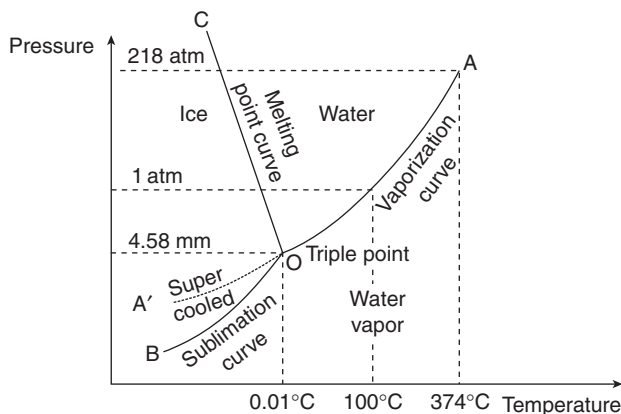

Figure 1 Phase diagram of water.
water is a two-dimensional plot where pressure and temperature are taken as axes and is represented in Figure 1.
1. **Curve OC (Melting point curve or freezing point curve):** Curve OC represents the equilibrium between ice and water. It is also called **fusion curve** of ice as it indicates the temperature and pressure at which ice (solid) and water (liquid) can coexist at equilibrium. In other words, this curve shows the effect of pressure on the melting point of ice. As shown in the Figure 1, line OC is inclined towards the pressure axis (i.e., negative slope of the curve), which indicates that melting point of ice is increased by lowering pressure. It can also be predicted from Clausius–Clapeyron equation as follows
We know that density of ice is less than that of water. So, volume of ice ( $V_s$ ) is larger than that of water ( $V_l$ ), due to which the expression on right hand side of Eq. (6.11), becomes negative. This means,  $dT/dp$  will be negative. The negative value of  $dT/dp$  indicates that increase of pressure must lower the freezing point of water or the melting point of ice is increased by decreasing pressure. This is evident from the Figure 1 that the melting point of ice is  $0^\circ\text{C}$  at 1 atm (760 mm) pressure, which is increased to  $0.01^\circ\text{C}$ , when the pressure is decreased to 4.58 mm.
4. **Curve OA':** Sometimes, it is possible to cool water below its freezing point without formation of ice. The water is then said to be supercooled and can be kept as such until a small piece of ice comes in contact with it. Therefore, the vapor pressure curve of liquid water AO can continue below the point O. It is shown by dotted line OA' in the Figure 1. This liquid–vapor system along OA' is said to be in metastable equilibrium since water can be converted to ice, when a small piece of ice comes in contact with the supercooled liquid. Hence, curve OA' is called the vapor pressure curve of metastable water. It is seen from the phase diagram that curve OA' lies curve above curve OB. Thus, the metastable system has a higher vapor pressure than the stable one at the same temperature.